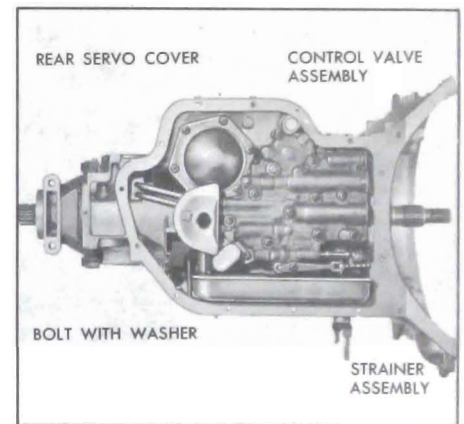

Figure 5-508
6. Remove bottom pan and gasket. See Figure 5-508.